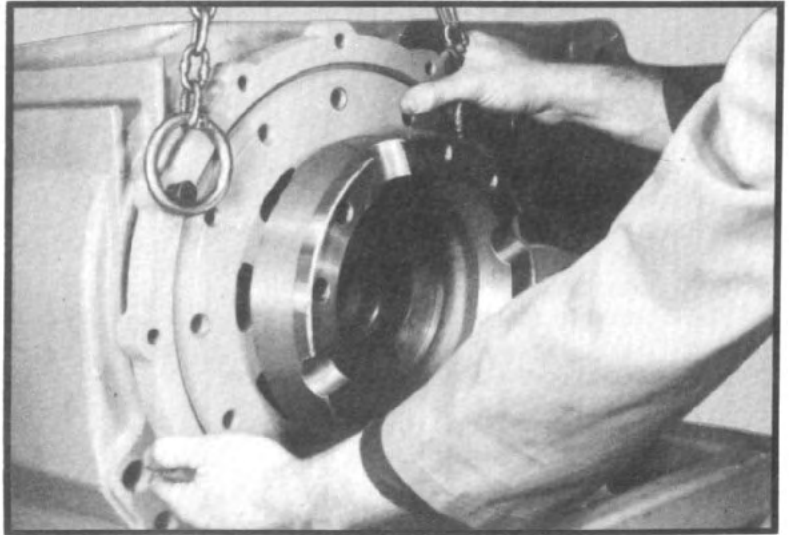
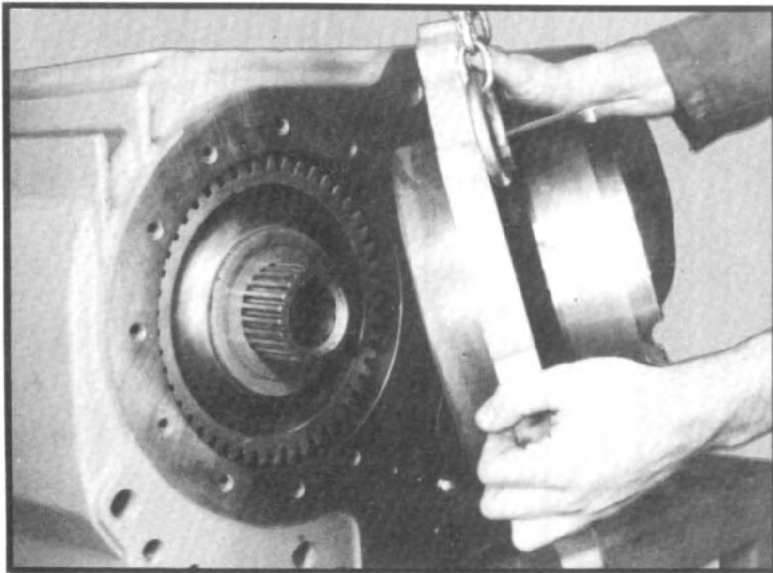

Fig. 52.
Fig. 53
- 2.17 Remove fifteen capscrews from rear faceplate and remove face plate and differential case front half from housing. It is recommended that two bolts or eyebolts be attached to the face plate and a chain hoist be attached to the bolts or eye bolts with a chain. (See fig. 52.) The face plate can then be worked out of transfer case housing, supported by the chain hoist. (See fig. 53.)